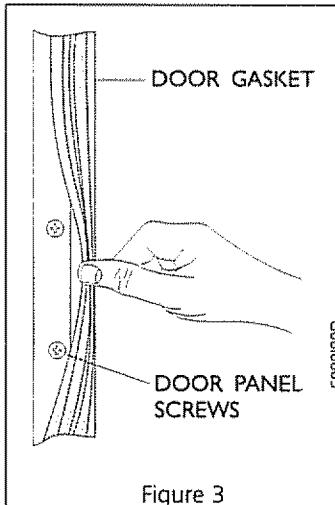

Figure 3
1. Loosen all door panel screws around the edge of door. (Figure 3) On 9 cubic foot models, slam door to realign to cabinet, retighten all door panel screws.